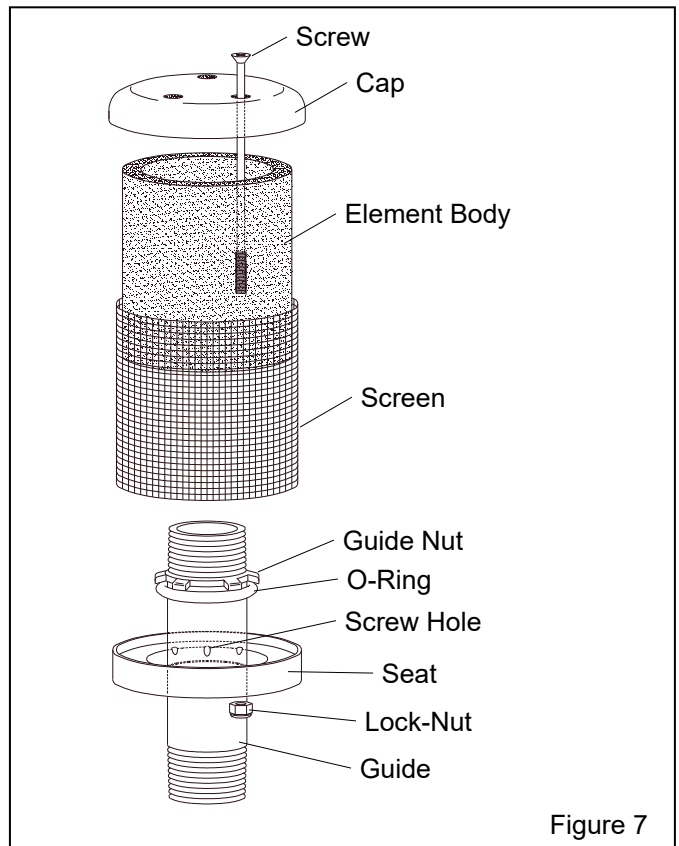

Figure 7
5.10 Exhaust Muffler, Figure 7
5.10.7 Reassemble, taking care to correctly insert the screws in the seat plate. The screw holes are the three closest to the center. See the illustration in Figure 7.